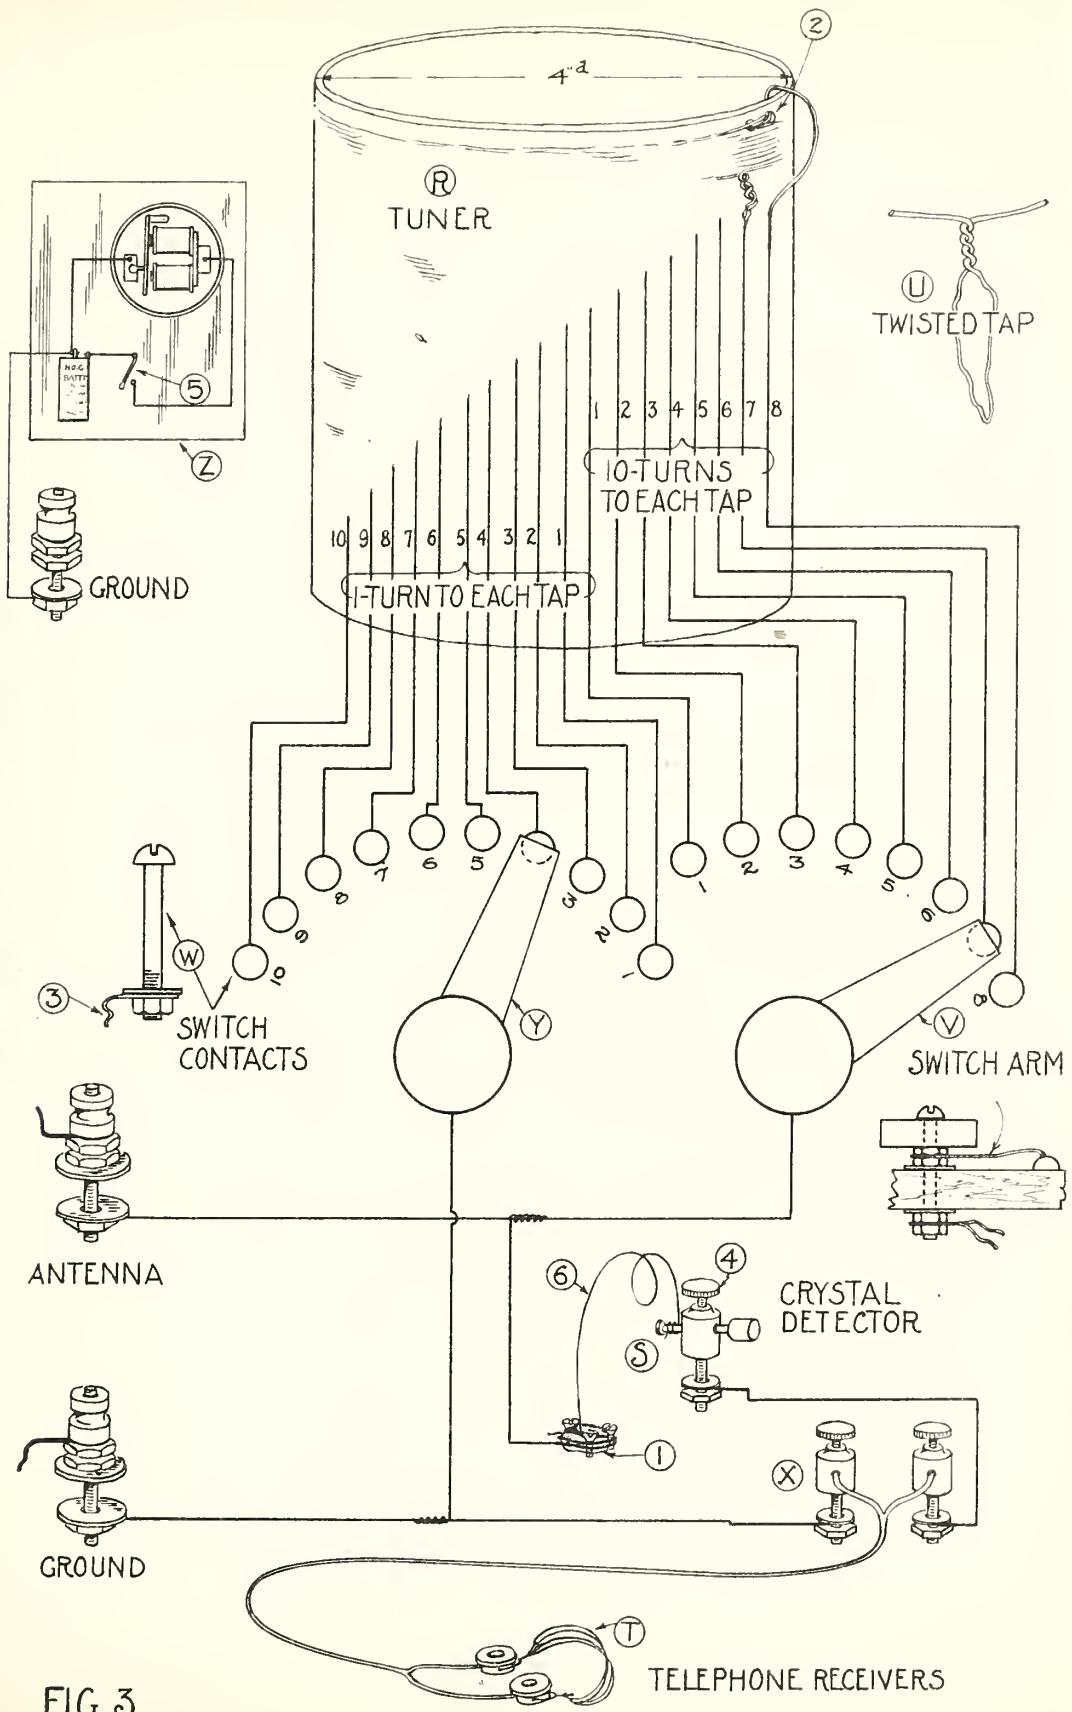
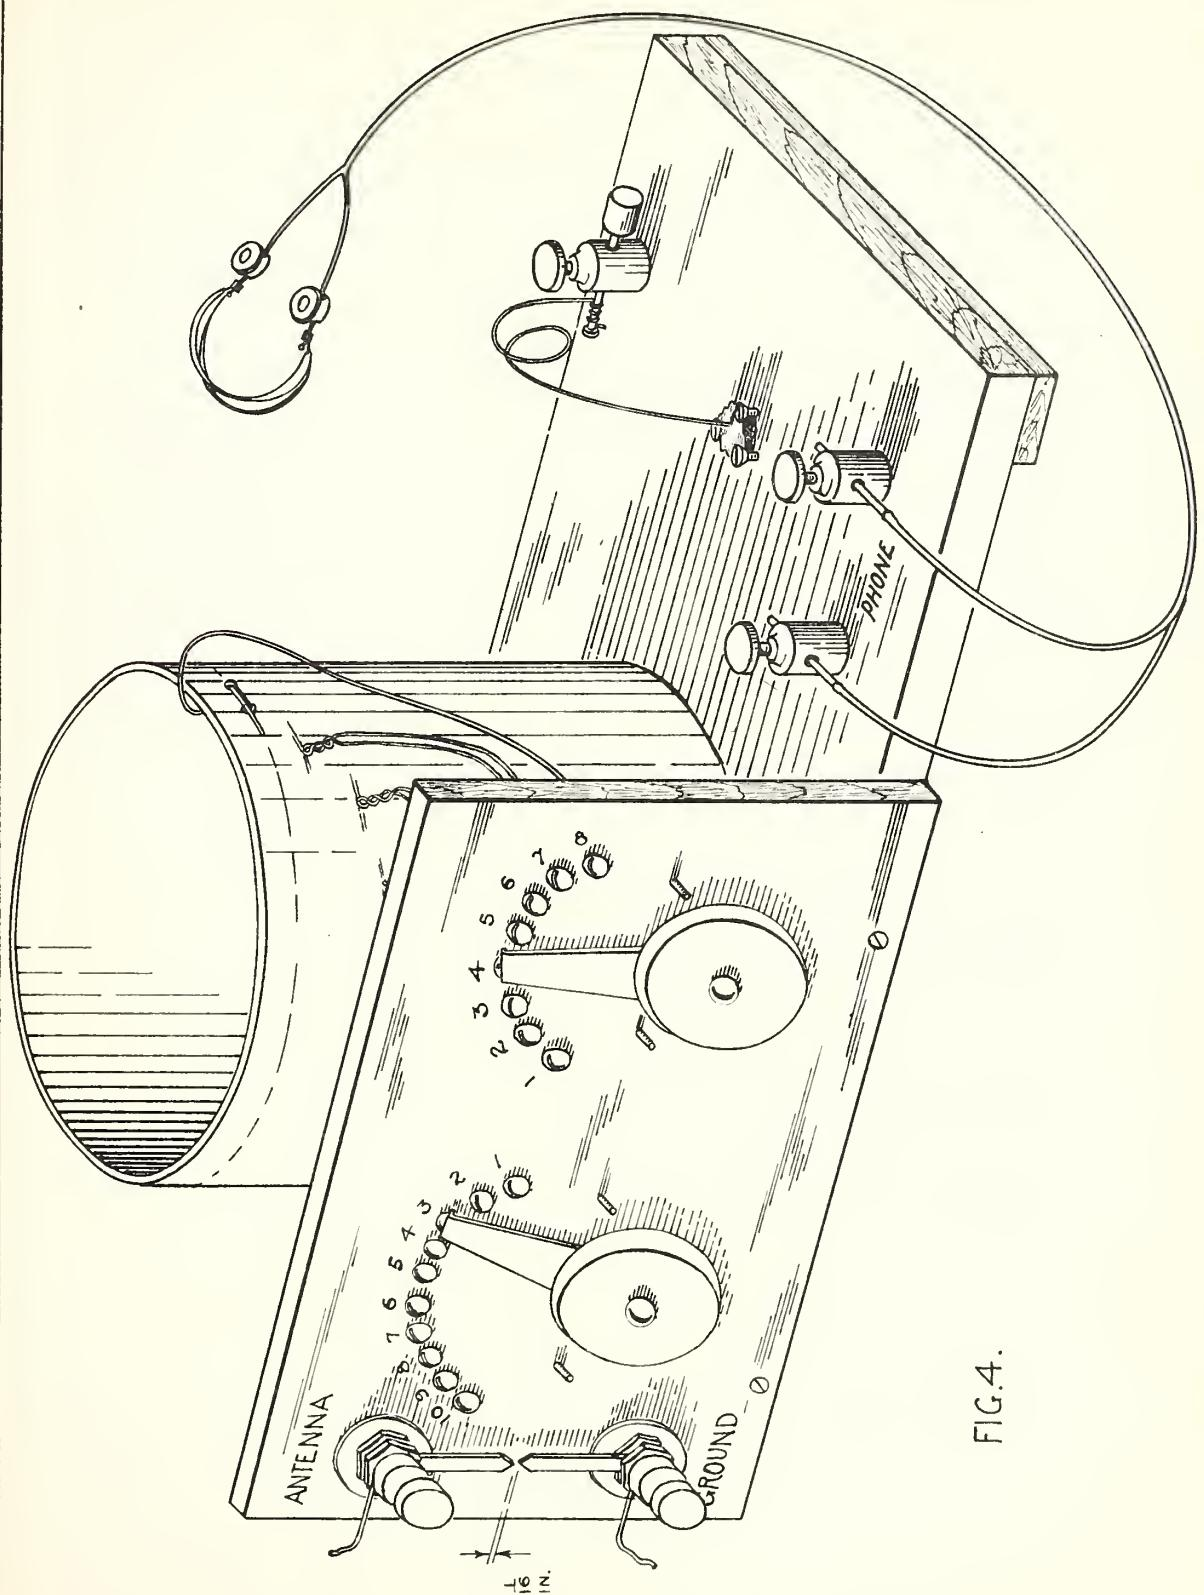

FIG. 3.
FIG.4.
Tuning coil (R, Fig. 3). - This is a length of cardboard tubing with copper wire wound around it. The cardboard tubing may be an oatmeal box. Its construction is described in detail below. A cylinder of wood or other non-metallic substance may also be used.
Crystal Detector (S, Fig. 3). - The crystal detector may be of very simple construction. The crystal (1) as it is ordinarily purchased, may be unmounted or mounted in a small block of metal. It is very important that a very good tested crystal be used. A galena crystal will be satisfactory. Through binding post (4) is a nail with a wood knob or cork on its point and a 2-1/2 inch piece of #24 bare wire attached below the head and bent so as to rest on the crystal.
The crystal detector is made up of a tested crystal, three wood screws, a short piece of copper wire, a nail, a set screw type binding post, and a wood knob or cork. The crystal is held in position on the wood base by three brass wood-screws as shown at 1, Fig. 3. A bare copper wire is wrapped tightly around the three brass screws for connection. The assembling of the rest of the crystal detector is shown in Fig. 3.
Phone (T, Fig. 3). - It is desirable to use a pair of telephone receivers connected by a head band, usually called a double telephone headset. The telephone receivers may be any of the standard commercial makes having a resistance of between 2000 and 3000 ohms. The double telephone receivers may cost more than all the other parts of the station combined but it is desirable to get them, especially if it is planned to improve the receiving set later. A single 1000-ohm telephone receiver with a head band may be used but with less satisfactory results.
Tuning Coil.— See R, Fig. 3.— The cardboard tubing is 4 inches in diameter by 4-1/2 inches long. One end of the tube should have the cardboard cover glued securely to it. About 2 ounces of No. 24 (or No. 26) double cotton-covered copper wire is used for winding the coil. Punch two holes in the tube about 1/2 inch from one end as shown at 2 in Fig. 3. Weave the wire through these holes in such a way that the end of the wire will be firmly anchored, leaving about 12 inches of the wire free for connecting. Start with the remainder of the wire to wind the turns in a single layer about the tube, tightly and closely together. After 10 complete turns have been wound on the tube hold these turns tight and take off a tap. This tap is made by twisting a 6-inch loop of the wire together at such a place that it will be slightly staggered from the first connection. This method of taking off taps is shown clearly at U, Fig. 3. Proceed in this manner until 7 twisted taps have been taken off, - one at every 10 turns. After these first 70 turns have been wound on the tube, take off a 6-inch twisted tap for every succeeding single turn until 10 additional turns have been wound on the tube. After winding the last turn of wire anchor the end by weaving it through two holes punched in the tube as at the start, leaving about 12 inches of wire free for connecting. It is to be understood that each of the 13 taps is slightly staggered from the one just above, so that the taps will not be bunched along one line on the cardboard tube. (See Fig. 3.) It might be advisable, after winding the tuning coil, to dip the tuner in hot paraffin. This will help to exclude moisture. It is important to have the paraffin heated until it just begins to smoke, as previously explained, so that when the tuner is removed it will have only a very thin coat of paraffin.
Upright Panel and Base.— Having completed the tuning coil set it aside and construct the upright panel shown in Fig. 4. This panel may be a piece of wood approximately 1/2 inch thick, 4-1/2 inches wide and 7-1/2 inches long. This panel can be used with apparatus to be described in a later pamphlet. For this reason it is desirable to have the last contact an inch from the right end of the panel (See Fig. 4). It is also desirable to have the contact points near the top of the panel. The position of the several holes for the binding posts, switch arms and switch contacts may first be laid out and drilled. The "antenna" and "ground" binding posts may be ordinary 8-32 brass bolts about 1-1/2 inches long with three nuts and two washers. The first nut binds the bolt to the panel, the second nut holds one of the short pieces of stiff wire, while the third nut holds the antenna or ground wire as the case may be. The switch arm with knob shown at V, Fig. 3, may be purchased in the assembled form or it may be constructed
from a 3/8-inch slice cut from a broom handle and a bolt of sufficient length equipped with four nuts and two washers, together with a strip of thin brass somewhat as shown. The end of the switch arm should be wide enough so that it will not drop between the contact points, but not so wide that it cannot be set to touch only a single contact. The switch contacts (W, Fig. 3.) may be of the regular type furnished for this purpose or they may be 6-32 brass bolts with one nut and one washer each; they may even be nails driven through the panel with the individual tap fastened under the head or soldered to the projection of the nail through the panel. The base is of wood approximately 3/4 inch thick, 5-1/2 inches wide and 10-1/2 inches long.
The telephone binding posts should preferably be of the set screw type as shown at X, Fig. 3.
After the several parts mentioned have been constructed and (with the exception of the tuning coil) mounted on the wood base, the wires may be connected to the switch arms and binding posts and the taps may then be connected to the switch contacts. A wire is connected to the back of the left-hand switch-arm bolt (Y, Fig. 3) twisted into a spiral of one or two turns, like a clock-spring, and then led to the back of the binding post marked "ground". Connection is made to the binding post by removing the insulation from the wire and clamping between the nut and washer. The same wire is now passed through a small hole and run underneath the base to the left-hand binding post marked "phone". A wire is then run from underneath the right-hand binding post marked "phone" to underneath the binding post 4, Fig. 3, which is part of the crystal detector. The copper wire, which was wrapped tightly about the three brass wood screws that hold the crystal in place, is led underneath the base, up through a small hole, and is then connected to the back of the binding post marked "antenna". Another wire is connected to the back of the right-hand switch arm bolt (V) twisted into a spiral of one or two turns like a clock-spring and then connected to the back of the same binding post.
Wrap one end of a piece of No. 24 bare copper wire tightly around a nail, near the head, insert the nail in the binding post 4, Fig. 3, and adjust the wire until it rests on the crystal as shown. The detector is completed by pushing a cork or wood knob on the pointed end of the nail.
The taps leading from the tuner should now be connected to the switch contacts. Scrape the cotton insulation from the loop ends of the sixteen twisted taps as well as from the ends of the two single wire taps coming from the first and last turns. Fasten the bare ends of these wires to the proper switch contacts as shown by the corresponding numbers in Fig. 3. Be careful not to cut or break any of the looped taps. The connecting wires may be fastened to the switch contacts by binding them between the washer and the nut as shown at 3, Fig. 3. After all the wires from the tuner have been connected, the tuner should be fastened to the base by two or three small screws passing through the cardboard end. The screws should be provided with washers.
The Test Buzzer.- (Z, Fig. 3) As stated, the more sensitive spots on the crystal can be found by using a test buzzer. The test buzzer is used as a miniature local transmitting set. This is shown at Z, Fig. 3. The buzzer dry battery, and switch (5) may be mounted on the table or a separate board. The binding post marked "ground" may be one terminal of the dry cell connected to the binding post marked "ground" on the receiving set. The current produced by the buzzer will be converted into sound by the telephone receivers and the crystal, the loudness of the sound depending on what part of the crystal is in contact with the fine wire. To find the most sensitive spot connect the test buzzer to the receiving set (Z), close the switch (5, Fig. 3) and if necessary adjust the buzzer so that a clear note is emitted; set the right-switch arm on contact point No. 8 and connect the telephone receivers to the binding posts. Loosen the set screw of the binding post (4) slightly and change the position of the fine wire (6, Fig. 3) to several positions of contact with the crystal until the loudest sound is heard in the phones; then slightly tighten the binding post set screw (4).